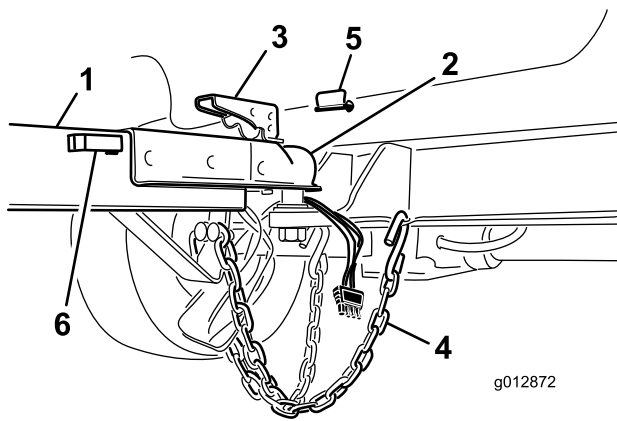

Figure 8
5. Store the harness connector in the hitch tube holster (Figure 8).
2. Lift the coupler lever on the tongue while lowering the cover over the ball hitch (Figure 8).
4. Install the pin to lock the coupler lever (Figure 8).
5. Cross the safety chains and attach them to the holes on the hitch (Figure 8).